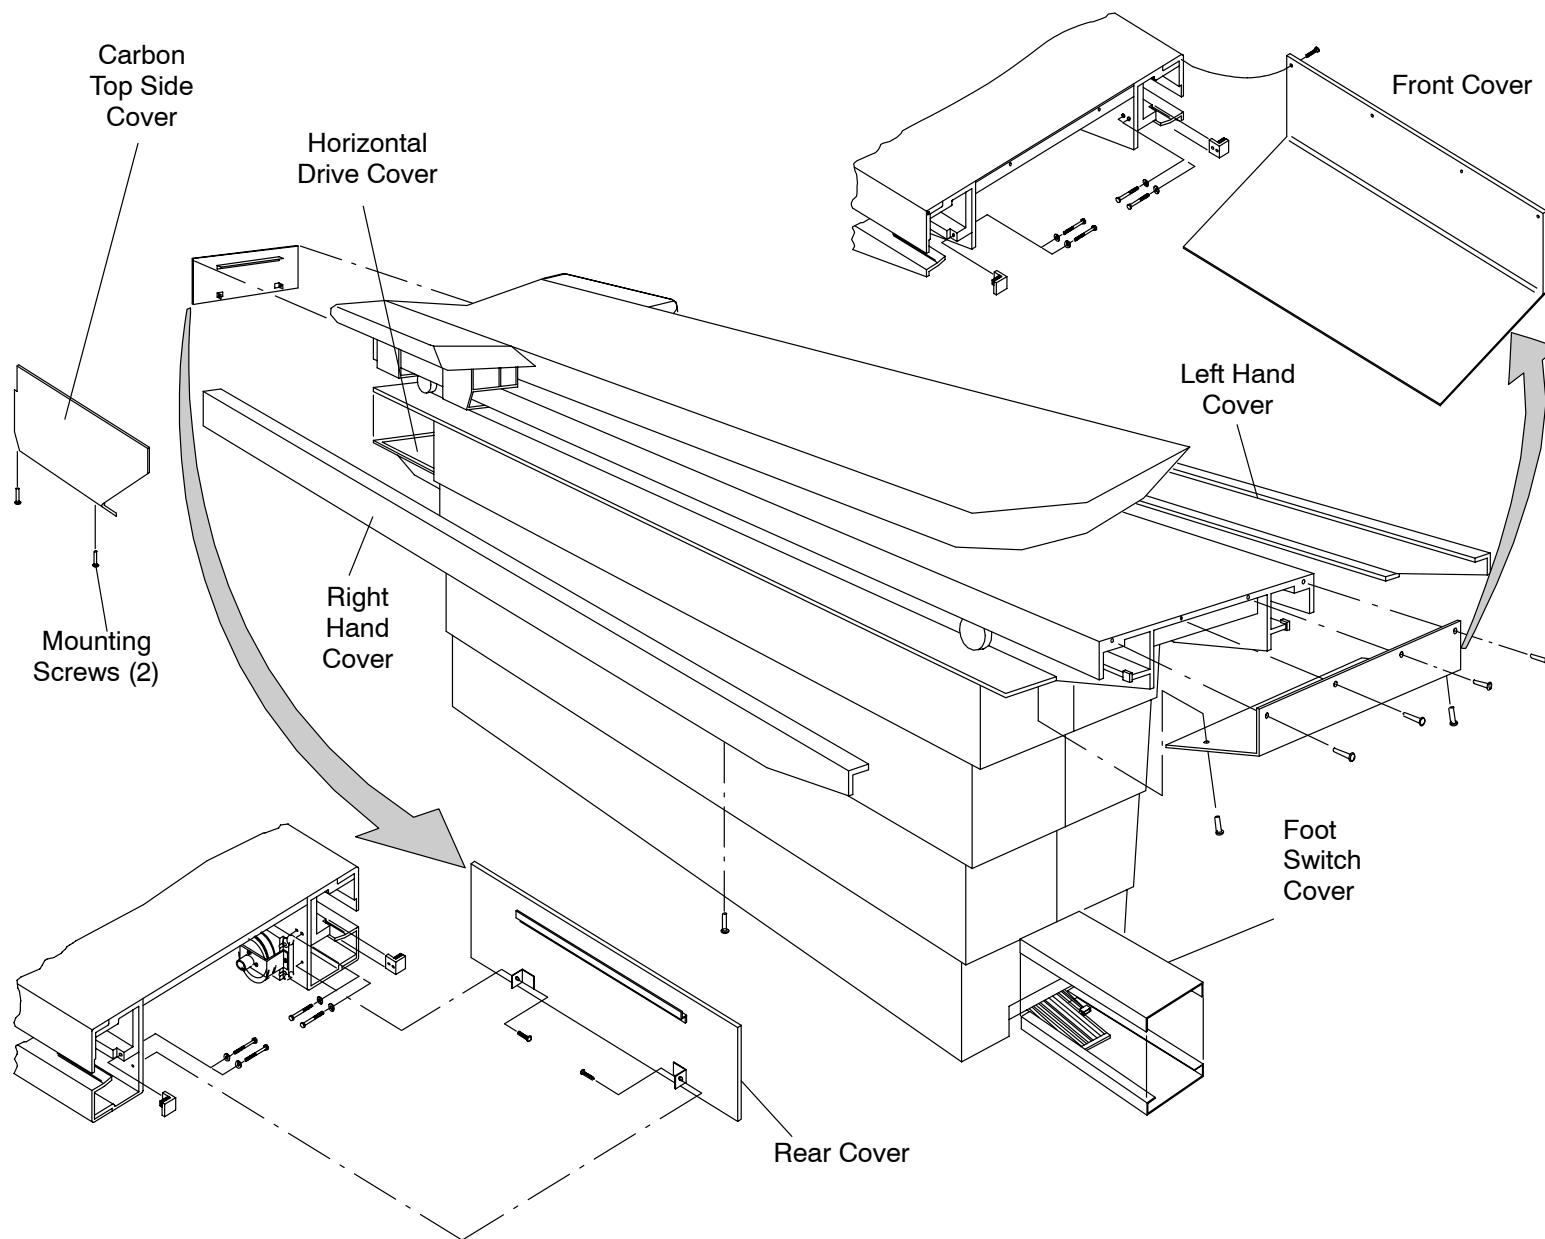

FIGURE 11 PATIENT SUPPORT COVERS
10. Remove the two Phillips Head Screws from the underside of the front Cover. See Figure 11.
13. Remove the two Phillips Head Screws from underneath the Sub-frame that secure the rear Cover. See Figure 11.
16. Remove the four Pan Head Screws, Lock Washers, and Flat Washers from underneath the Table at the rear end, to gain access to the Horizontal Drive. Refer to Figure 11.
19. Remove the two Mounting Screws that attach the Carbon Top Side Cover to the J–Bracket. Refer to Figure 11.
22. Remove the rear–most front cover Screw that secures the front Cover and Side Rail to the Sub–frame. Refer to Figure 11.
25. Remove the Flat Head Screws from the underside of the Rail Cover. If both Rail Covers are removed at the same time, tag them left and right. See Figure 11.